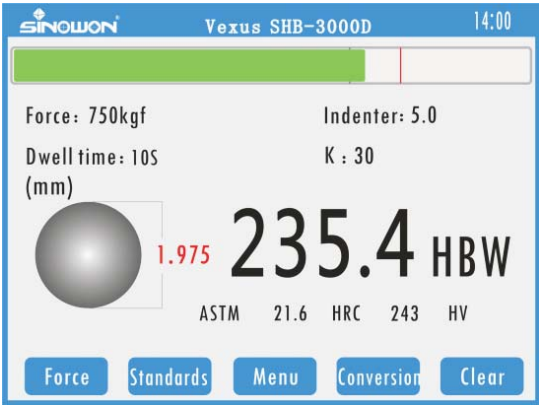

Fig.7-2
- 3) Press button on microscope (15) ,auto calculate brinell value (HBW) ,See Fig.7-2.